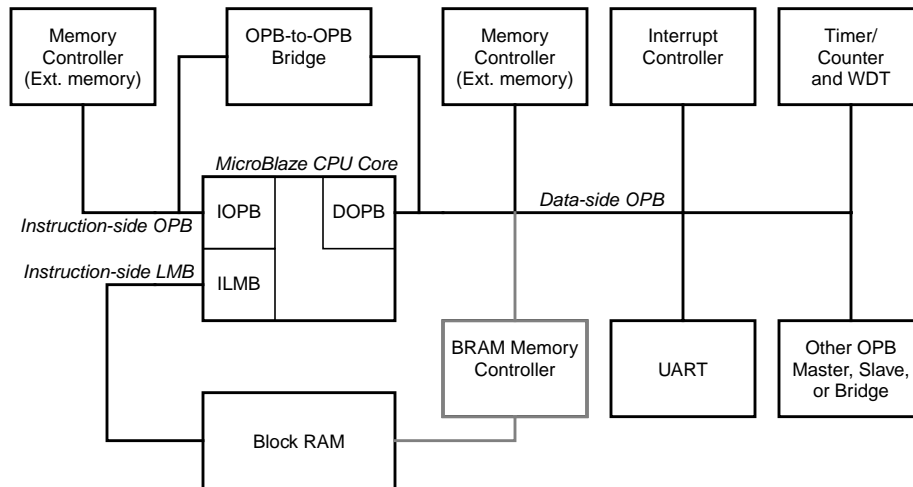
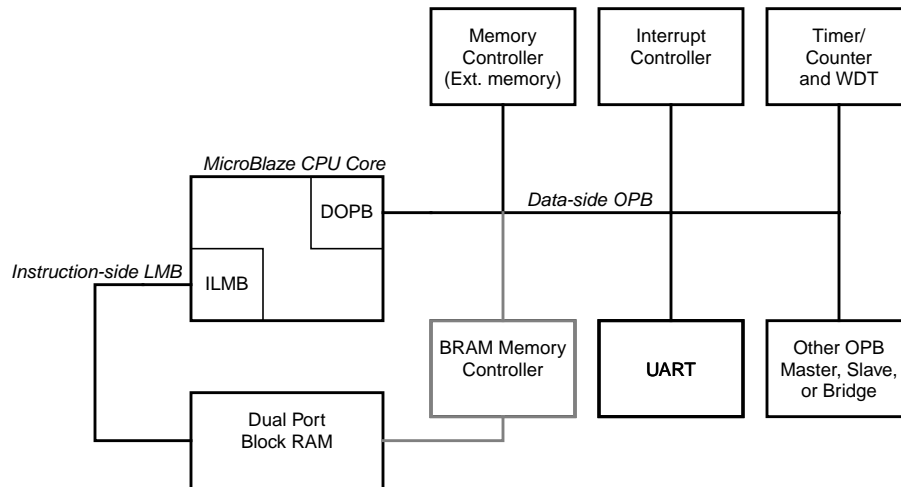
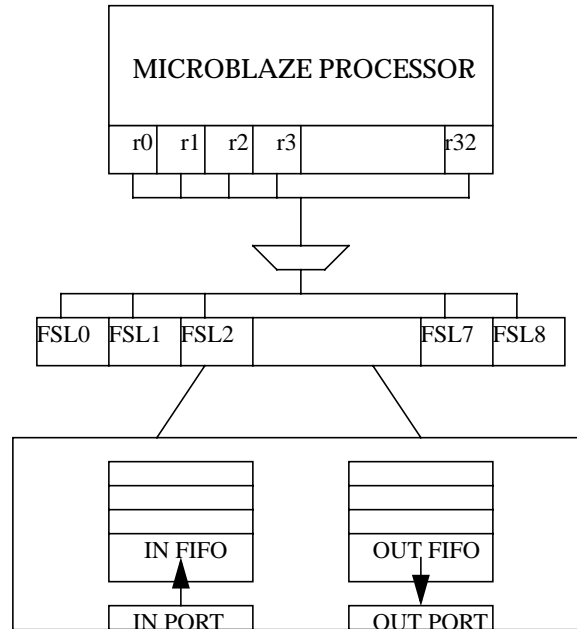

Figure 2-6: **Configuration 4: IOPB+ILMB+DOPB**
Figure 2-8: Configuration 6: ILMB+DOPB
Figure 2-9: FSL Configuration + MicroBlaze
**Note:** ILMB memory can be debugged via a software resident monitor if the second port of the dual-ported ILMB BRAM is connected to an OPB BRAM memory controller. See Figure 2-6 and Figure 2-8. Also, all the above 6 configurations can be used with a special FSL configuration. See Figure 2-9.